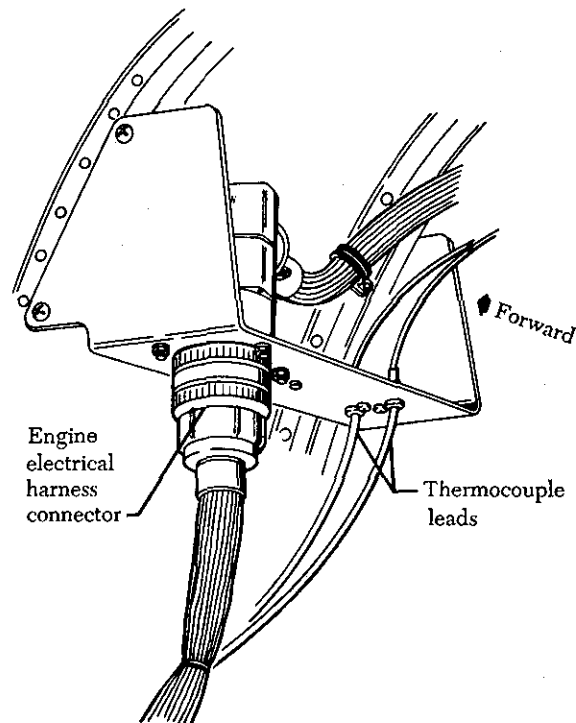

FIGURE 8-16. Electrical disconnect.
- (6) Disconnect the electrical wiring and the thermocouple leads from the connectors (figure 8-16).